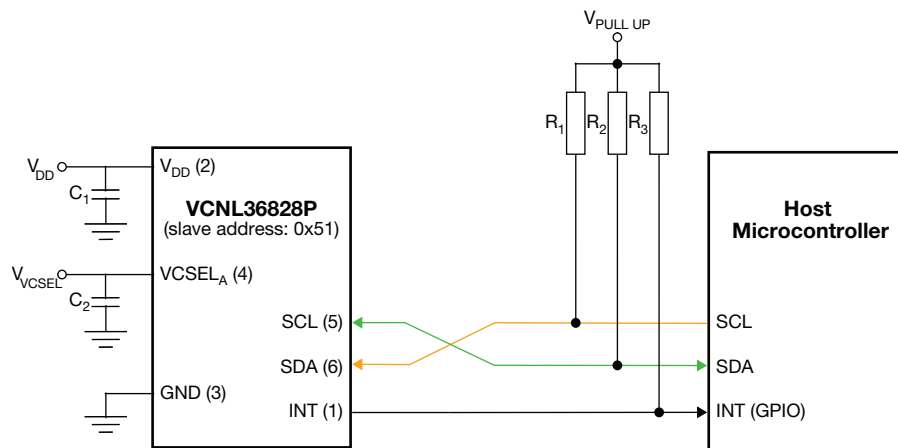

Fig. 13 - Application Circuit Example for a Single VCNL36828P - Slave Address 0x51
On the other hand, when pins 5 and 6 are connected to the data and clock signal from the microcontroller, as shown in Fig. 13, they will then be configured as an SDA pin and SCL pin, respectively. The 7 bit slave address option of 0x51 will be automatically selected.
- (1) The default ID depends on the connection of the SCL and SDA pins on the VCNL36828P with the SCL and SDA pins on the host MCU. If pins 5 and 6 on the VCNL36828P are connected to the SCL and SDA pins on the host, the default value will be 0x28. On the other hand, if pins 5 and 6 on the VCNL36828P are connected to the SDA and SCL pins on the host, the default value will be 0x29. Please refer to Fig. 13